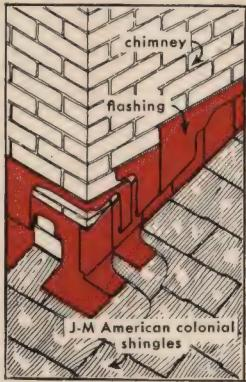

Figure 1
**Chimney Flashing**—Figure 1 shows the approved method of protecting the angle between the roof deck and a brick chimney. It consists of a base flashing of sheet metal installed in units, one to each course of shingles, the successive units overlapping each other as illustrated. This base flashing extends out under the shingles from 4 to 6 inches and up the side of the chimney enough to permit overlapping by the counter flashing at least 4 inches. The counter flashing is also of sheet metal. It is built into the courses in the brick-work while the chimney is being constructed. When flashing an existing chimney, the counter flashing should